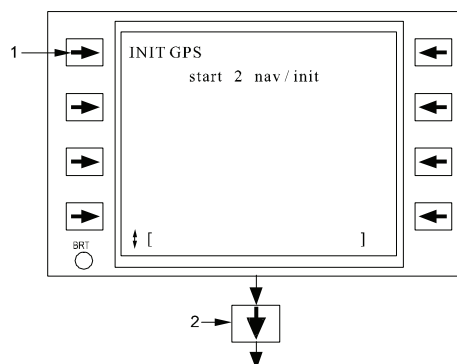

Figure 3B-20. Start 2 Navigation/Initialization
2. Press Left Line Key 1, then scroll to Start page 3. Refer to Figure 3B-22 and Table 3B-14.